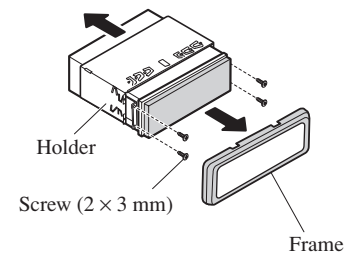

Fig. 12
- Remove the frame and the holder. (Fig. 12)